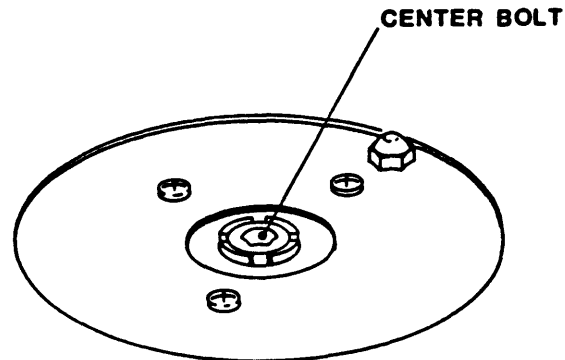

**Figure 4-18 Panel Assembly**
**4.3.22 PANEL ASSEMBLY (Figure 4-18)**